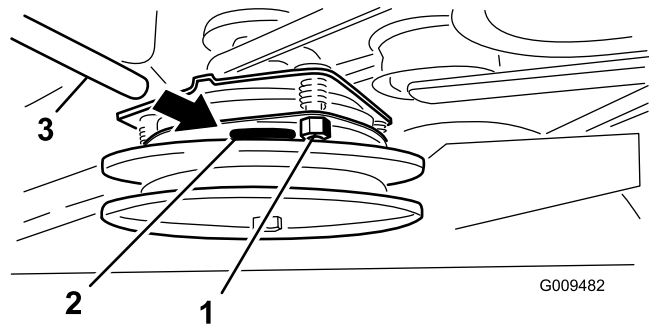

Figure 30
4. Tighten the lock nuts until there is slight binding on the feeler gauge but it can be moved easily within the air gap (see Figure 30).